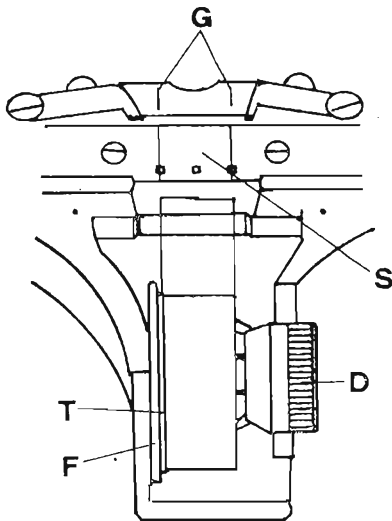

fig. 1
1) that the adhesive tape (S, fig. 1) — three or four superimposed layers — is applied to the matrix. It ensures that the little rectangles cut off by the perforators remain under the matrix and do not turn over sticking to the film.
- remove the adhesive tape layers (S, fig. 1) from matrix-centre, but **DO NOT** clean the little rectangles of adhesive tape cut off by the perforator, from the matrix-holes.